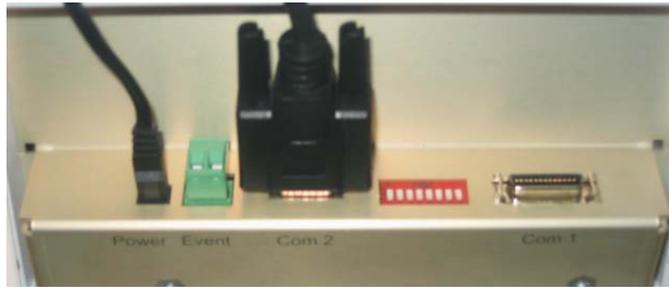

Figure 2: AS-93+ Connections & Switch.
- 4) Connect one DB9 Serial Cable (SC-0904) between the AS-93+ and the computer. See Figure 2
- 5) Change all DIP switch settings to OFF. The switch is shown in Figure 2.